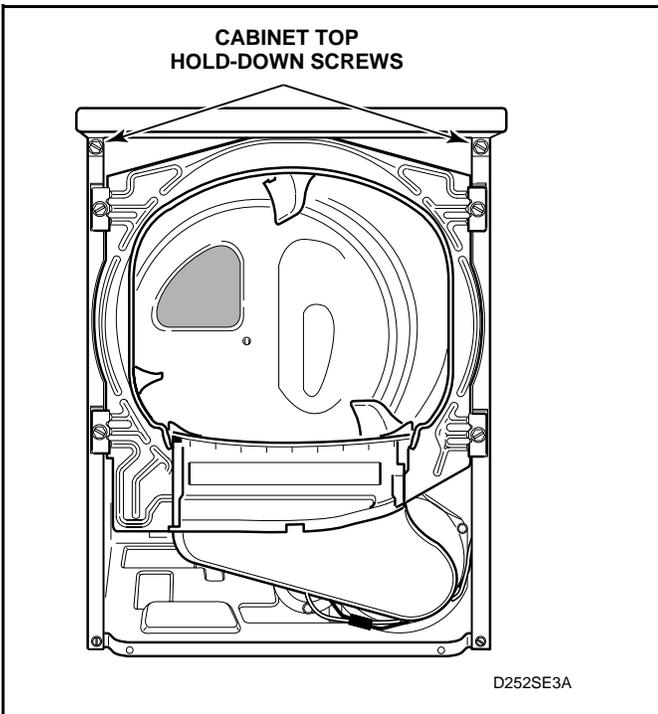

Figure 26
- m. Remove two cabinet top hold-down screws. See *Figure 26*.
- l. Remove two cabinet top hold-down screws. See *Figure 26*.